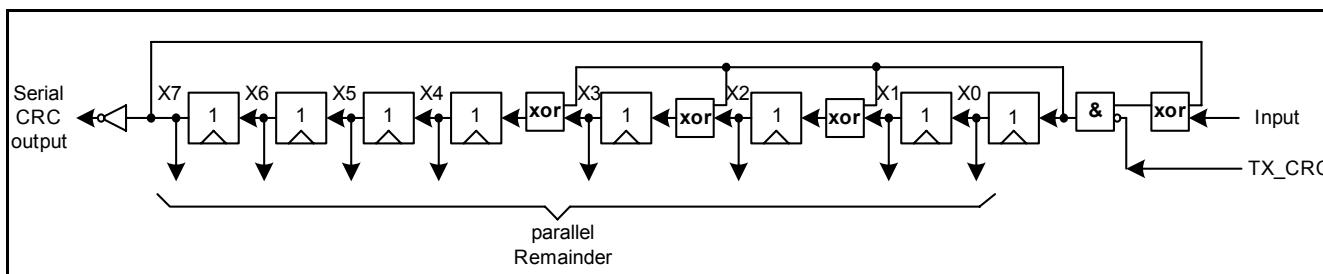

Figure 15 Fast CRC Polynomial Division Circuit
- Generator-Polynomial: $X^8 + X^4 + X^3 + X^2 + 1$, but for the CRC generation the fast-CRC generation circuit is used (see Figure 15)